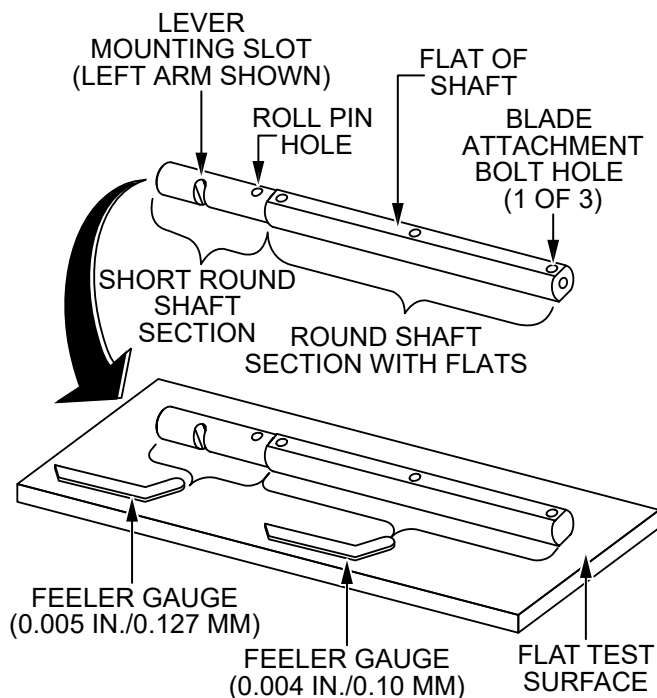

Figure 53. Checking Trowel Arm Straightness
1. Place the trowel arm onto a thick steel plate, granite slab, or any other surface which is flat and true (Figure 53).
2. Check each of the flat sides of the trowel arm (Figure 53). A **feeler gauge** of **0.004 in. (0.10 mm)** should not pass between the flat of the trowel arm and the test surface along its length on the test surface.
3. Check the clearance between the **short round shaft section** and the test surface as one of the flat sections of the arm rests on the test surface (Figure 53). Rotate the arm to each of the flat sections and check the clearance of the round shaft. Use a **feeler gauge** of **0.005 in. (0.127 mm)**. Each section should have the same clearance between the round of the trowel arm shaft and the test surface.